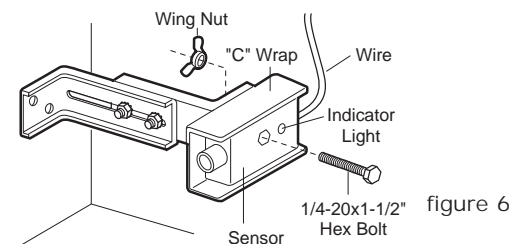

figure 6
- Use bracket mounting holes as a template to locate and drill (2) (4.8mm) diameter pilot holes on both sides of the door, (100mm). Max height is (100mm).
- Secure sensors with the hardware shown in Figure 6. Finger tighten the wing nut on the *receiving* eye to allow for final adjustment. Securely tighten the *sending* eye wing nut.
- Strip 11mm (7/16") of insulation from each set of wires. Separate white and white/black wires sufficiently to connect to the opener quick-connect terminals: white to white and white/black to grey (Figure 6 page 11).